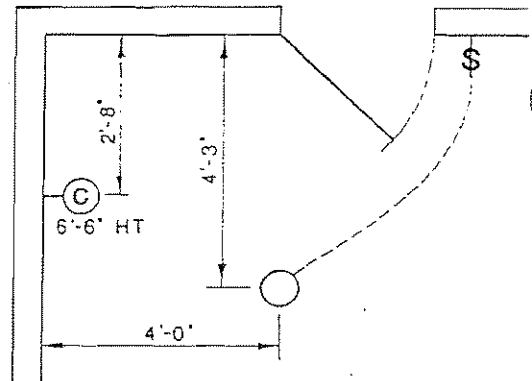

Fig. 5 Add dimensions if exact locations are required
2. The location of the symbol on the working drawing is closely approximated. If an exact location is required, dimensions must be added to the symbol on the drawing (Fig. 5 ).